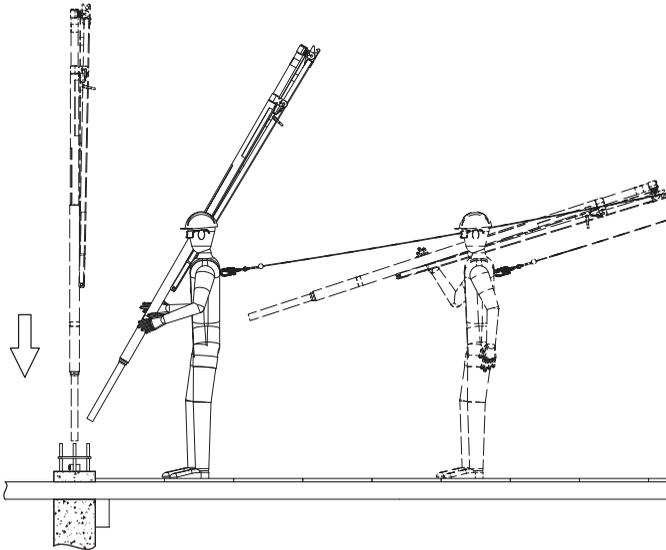

Figure 22. Moving the SkyReach Anchor by hand.
1. Remove the plastic plug from the Cast-in Sleeve. Carry the SkyReach Anchor in its folded position to its location at the column. Use your shoulder for easier transfer, see Figure 22. Lower the anchor and insert it into the sleeve. Make sure that the SkyReach Anchor is fully inserted.